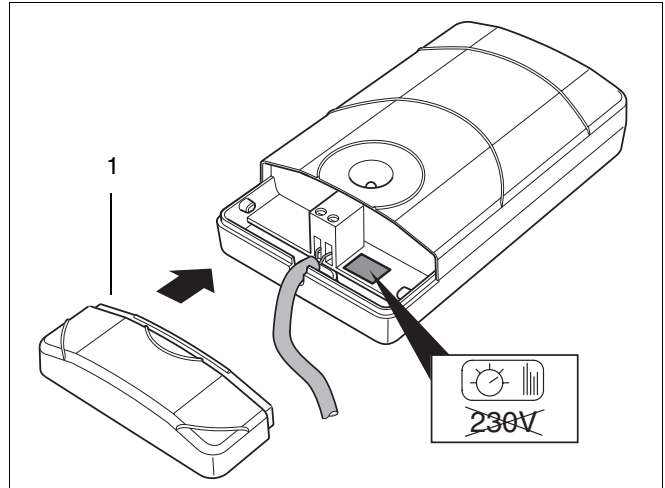

fig. 27 Connect cable
- Connect the thermostat's cable (supplied with the thermostat) to the receiver (fig. 27).
- Refit the casing (fig. 27, item 1).